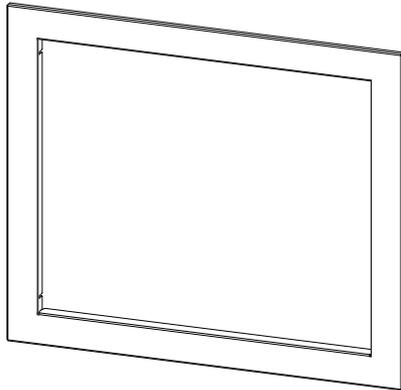

**Figure 40**
**See typical installation illustrated below (Figure 40).**